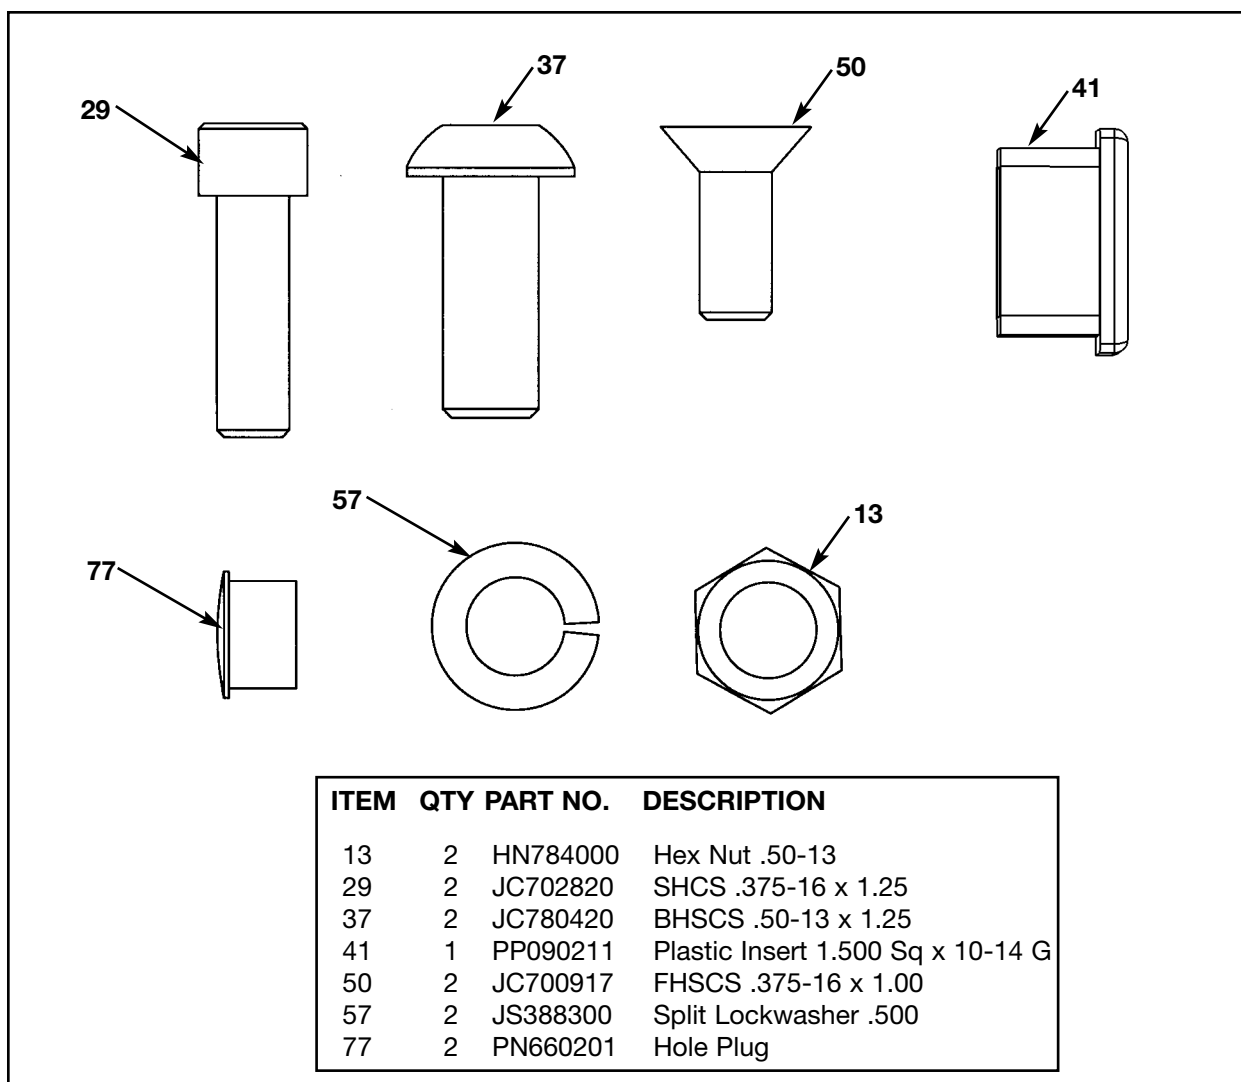

Figure 11
5. Install the Leg Press Assembly to the appropriate configuration (see steps 5A - 5F and Figures 11 - 13B).
- B.** Verify contents of hardware pack. See Figure 11.